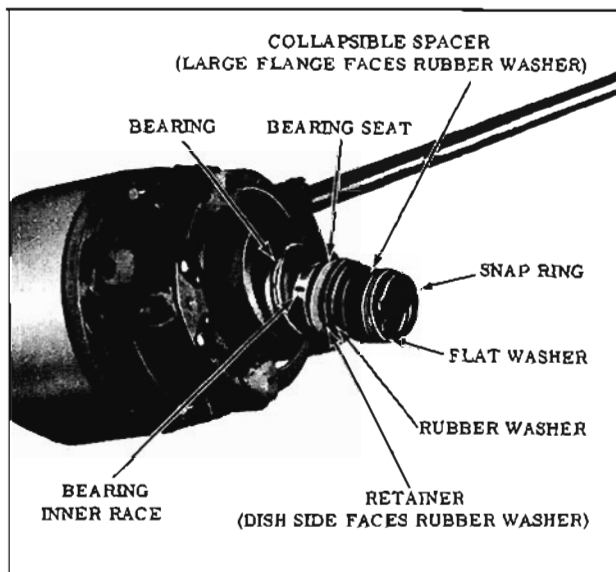

Fig. 8-96 Removing Upper Shaft Parts
5. Remove the washer, collapsible spacer, rubber washer, retainer, bearing seat, inner race and steering shaft upper bearing. (Fig. 8-96)